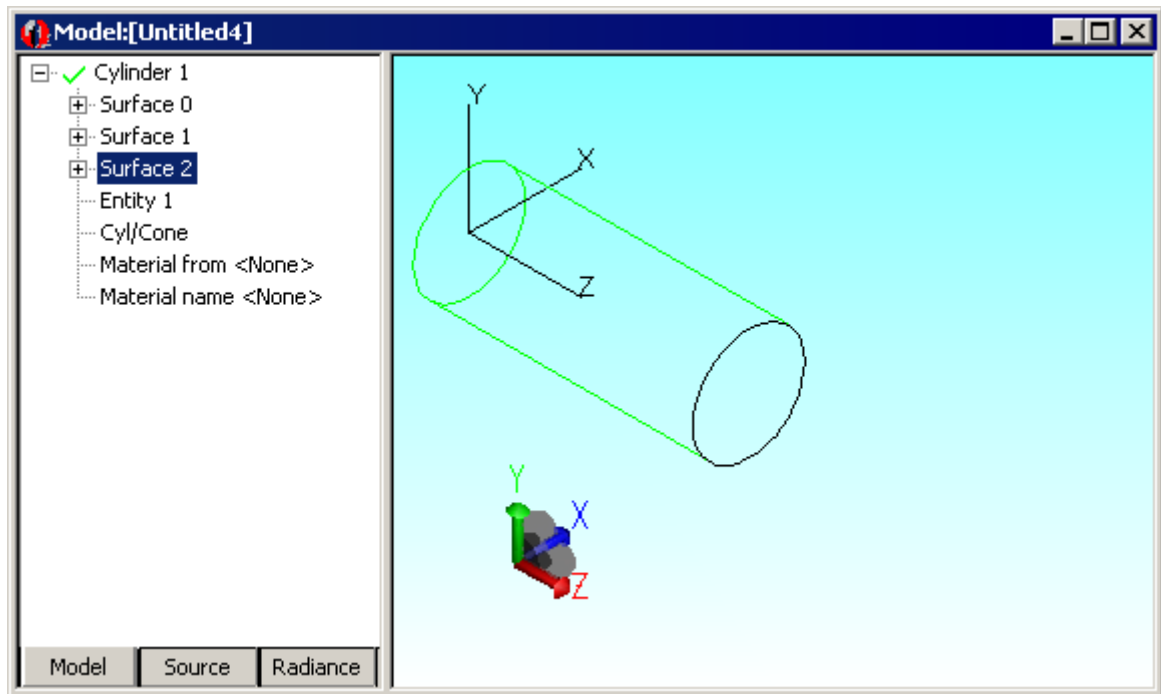

FIGURE 9.31 - Cylinder
5. Select **View|Profiles|Iso 1** to get the view shown in Figure 9.31.